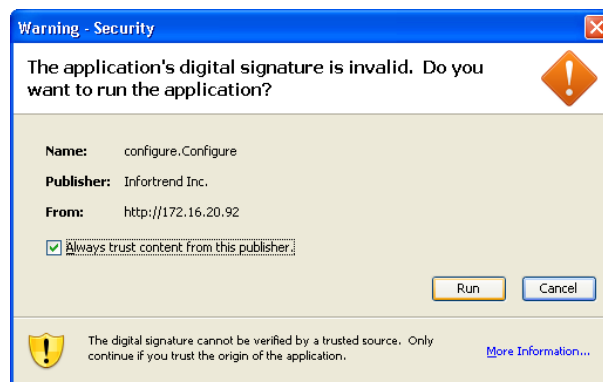

Fig. 13.1 Security Warning
3. A safe content warning message might prompt. Click Yes to proceed. (See *Figure 13.1*)